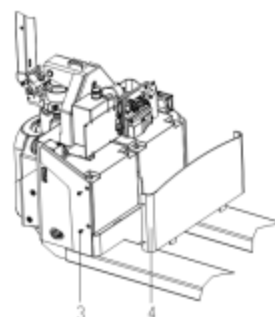

Fig. 7
- (Fig 7) loose screw3, remove rear cover4;